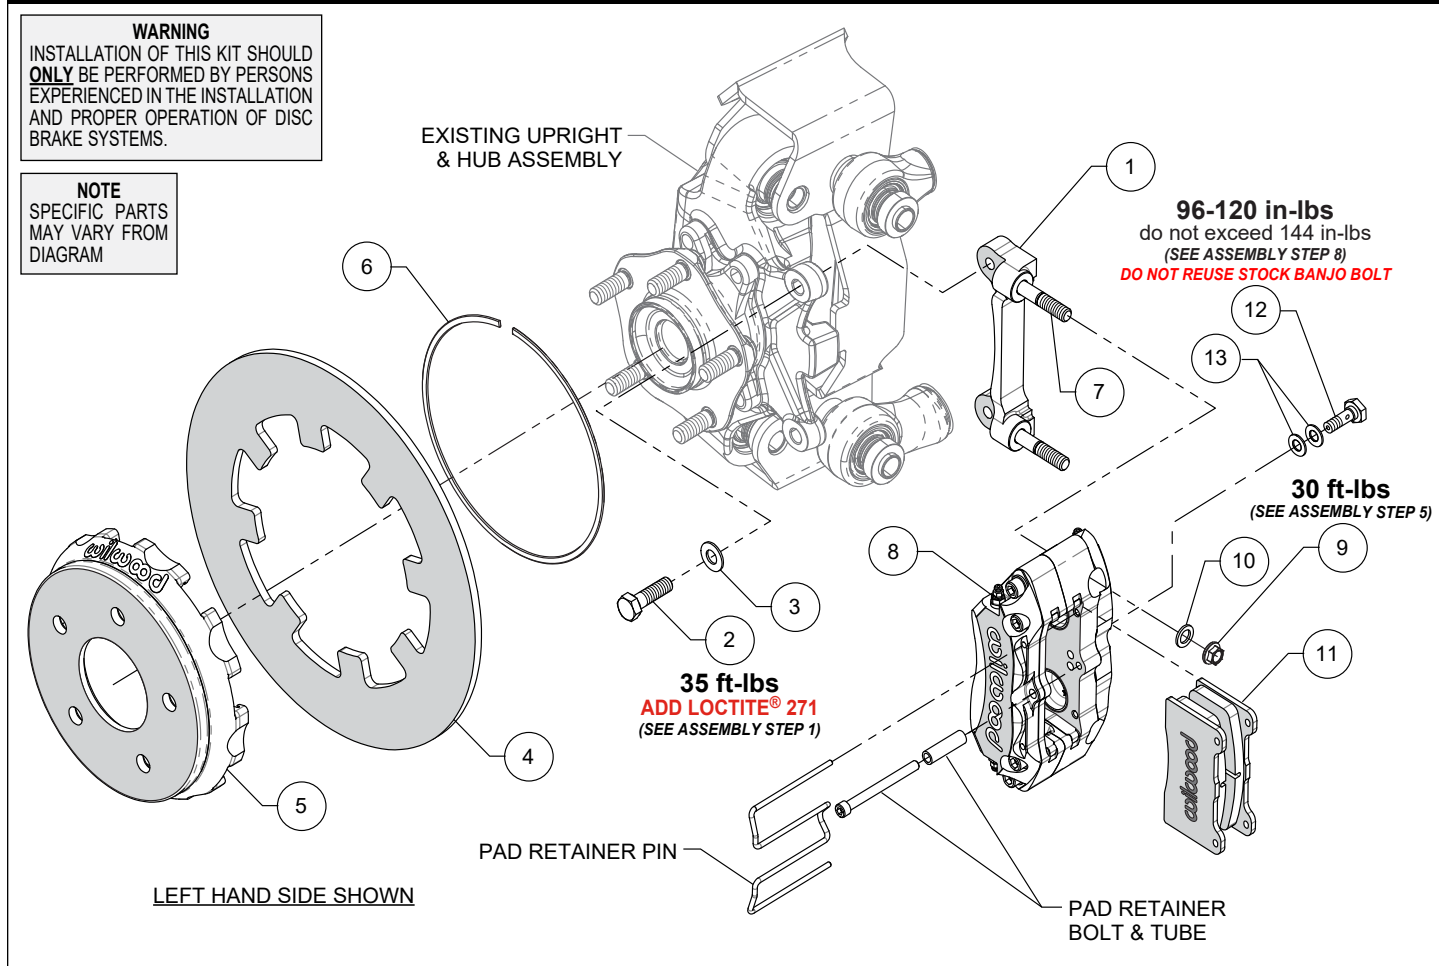

Figure 1. Typical Installation Configuration
**NOTE:** Numbers in parenthesis refer to the parts list and Figure 1 on the preceding pages.
**STEP 1** The caliper mount bracket (1) should initially be installed with clean, dry threads on the mounting bolts. Orient the bracket, as shown in Figure 1 and Photo 1, and install using bolts (2) and washers (3). Temporarily tighten the mounting bolts. **NOTE:** The bracket must fit squarely against the mount bosses on the upright. Inspect for interference from casting irregularities, machining ridges, burrs, etc. Remove the bracket mounting bolts (2) one at a time, apply red Loctite® 271 to the threads, and torque to value shown in Figure 1.
**STEP 2** Position the rotor (4) onto the hat (5), making sure the rotor lugs fit into the recesses of the hat, as shown in Photo 2.
**STEP 3** Secure rotor to the hat using the snap ring (6) by installing the ring into the groove in the hat, as shown in Photos 3 and 4. Carefully inspect snap ring to ensure complete engagement in the groove.
**STEP 5** Mount the caliper (8) onto the bracket (1) using lock nuts (9) and washers (10), Figure 1 and Photo 6. Torque to value shown in Figure 1.
**STEP 6** Remove the pad retainer clip from the caliper (8). Insert the brake pads (11) into the caliper with the friction material facing the rotor, as shown in Photo 7. Secure the pads in place using the pad clip retainer as well as the pad retainer tube and bolt, Photo 8. The bolt should be snug without play in the tube. Be cautious not to over tighten.
**STEP 8** Attach brake line to caliper. Connect OEM brakeline to caliper using banjo bolt (12) and crush washers (13). Do not use lubricant or thread sealant on banjo bolt (12). Torque to minimum value shown in Figure 1. Check for leakage, increasing torque only to stop leakage without exceeding maximum specification. Replace crush washers and banjo bolt whenever reassembly is required. **Ensure hoses are routed to prevent contact with moving suspension, brake or wheel components.**